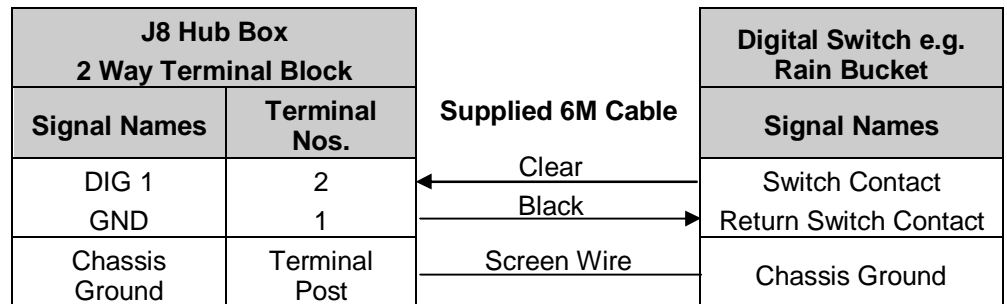

Figure 10 MetPak RG Base Station DIG 1 Rain Gauge Connections
4. Connect the cable as detailed in Figure 10.